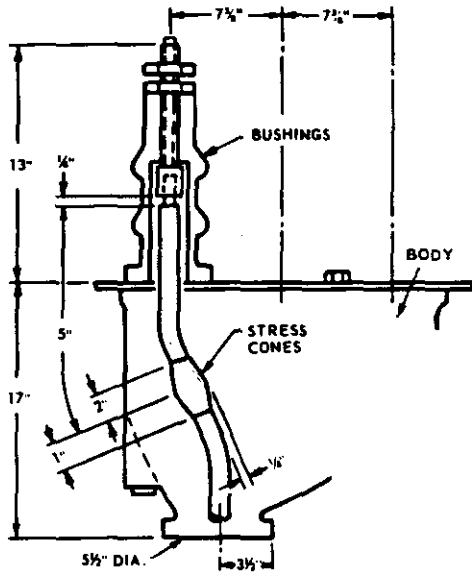

Fig. 13 - Three-conductor potheads.
- (e) Carefully follow the dimensions given in Figs. 13 and 14. In all cases, avoid the formation of air and gas pockets.